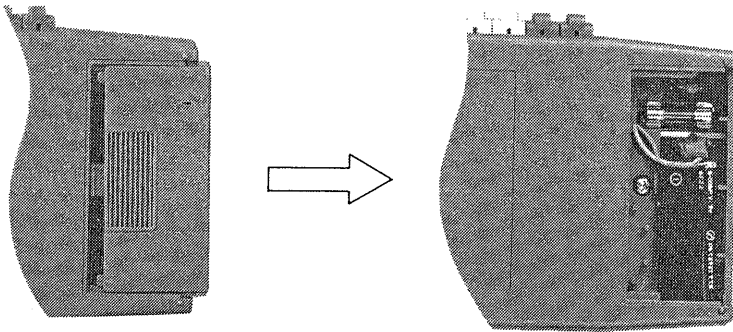

Figure 3-2
- (1) When the dry battery has become low, the "B" mark will be displayed on the LCD. If this is the case immediately replace the dry battery.
- (2) Should excessive current flow between the mA terminal and the COM terminal, the fuses will blow out, thus protecting the multimeter. Should current measurement not be possible, inspect the fuses.
- (3) To gain access to the dry battery and fuses for inspection or replacement, press the OPEN mark position of the battery cover and slide it in the arrowhead direction as shown in Figure 3-2. Be sure to install the dry battery in the correct direction as shown in Figure 3-2.